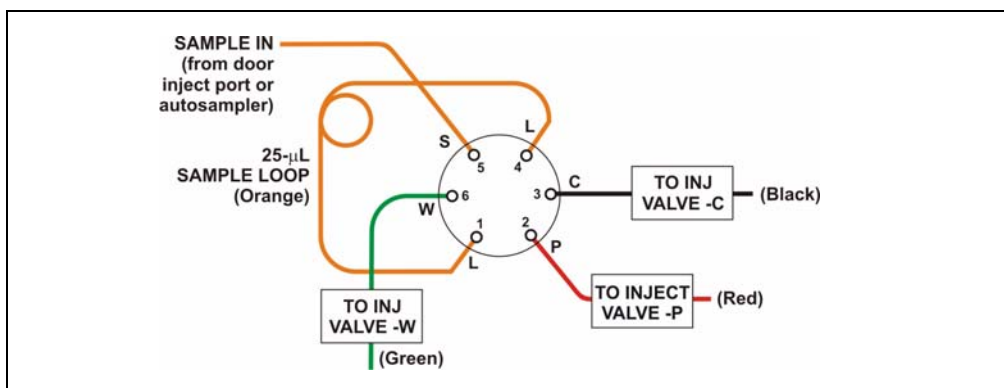

Figure 3-10. Injection Valve Connections
1. Make sure the injection port on the ICS-2100 front door (see Figure 2-1) is connected to sample port **S** (5) on the injection valve (see Figure 3-10).
1. Disconnect the waste line from port **W (6)** of the injection valve (see Figure 3-10) and attach a shorter line: 25 to 30 cm (10 to 12 inches) of PEEK or Teflon[®] tubing.